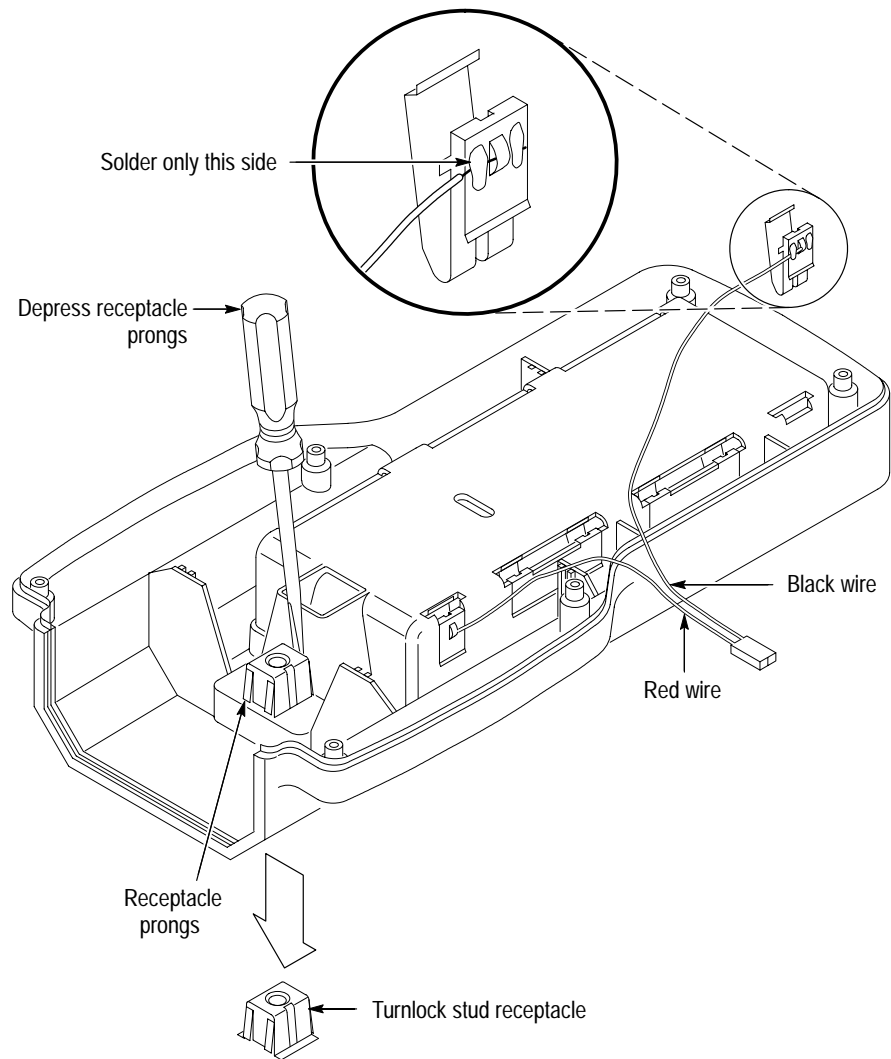

**Figure 6–11: Battery contact installation alignment**
1. Solder the battery power connector wires to the battery contacts. See Figure 6–12.
3. Pry the battery contact past the retaining lip on the bottom cover. See Figure 6–11.
1. Align the slot in the battery contact with the battery contact alignment ridge on the bottom cover. See Figure 6–11.
3. If you replaced one of the battery contacts that had the battery-power wires soldered to it, resolder the battery connector wire to the battery contact. See Figure 6–12.